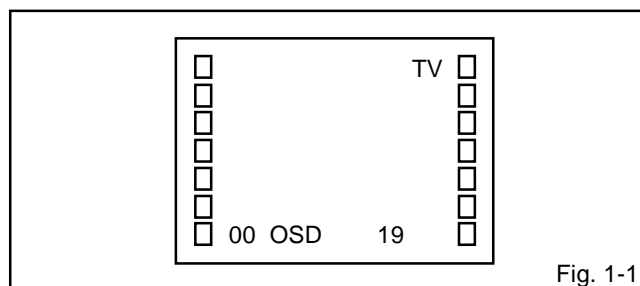

Fig. 1-1
Press the VOL. DOWN button on the set and the Channel button (**9**) on the remote control for more than 1 second to appear the adjustment mode on the screen as shown in **Fig. 1-1**.
3. Activate the adjustment mode display of **Fig. 1-1** and press the channel button (**01**) on the remote control to select "CUT OFF".
4. Activate the adjustment mode display of **Fig. 1-1** and press the channel button (**10**) on the remote control to select "R.BIAS".
3. Activate the adjustment mode display of **Fig. 1-1** and press the channel button (**22**) on the remote control to select "TINT".
6. Activate the adjustment mode display of **Fig. 1-1** and press the channel button (**19**) on the remote control to select "COLOR CENT".
3. Activate the adjustment mode display of **Fig. 1-1** and press the channel button **(05)** on the remote control to select "H.PHASE".
3. Activate the adjustment mode display of **Fig. 1-1** and press the channel button **(06)** on the remote control to select "V.SIZE".
3. Activate the adjustment mode display of **Fig. 1-1** and press the channel button **(07)** on the remote control to select "V.SHIFT".
1. Activate the adjustment mode display of **Fig. 1-1**.
3. Activate the adjustment mode display of **Fig. 1-1** and press the channel button **(13)** on the remote control to select "BRIGHT CENT".
2. Activate the adjustment mode display of **Fig. 1-1** press the channel button **(17)** on the remote control to select "CONTRAST MAX".
5. Activate the adjustment mode display of **Fig. 1-1** press the channel button **(17)** on the remote control to select "CONTRAST MAX".